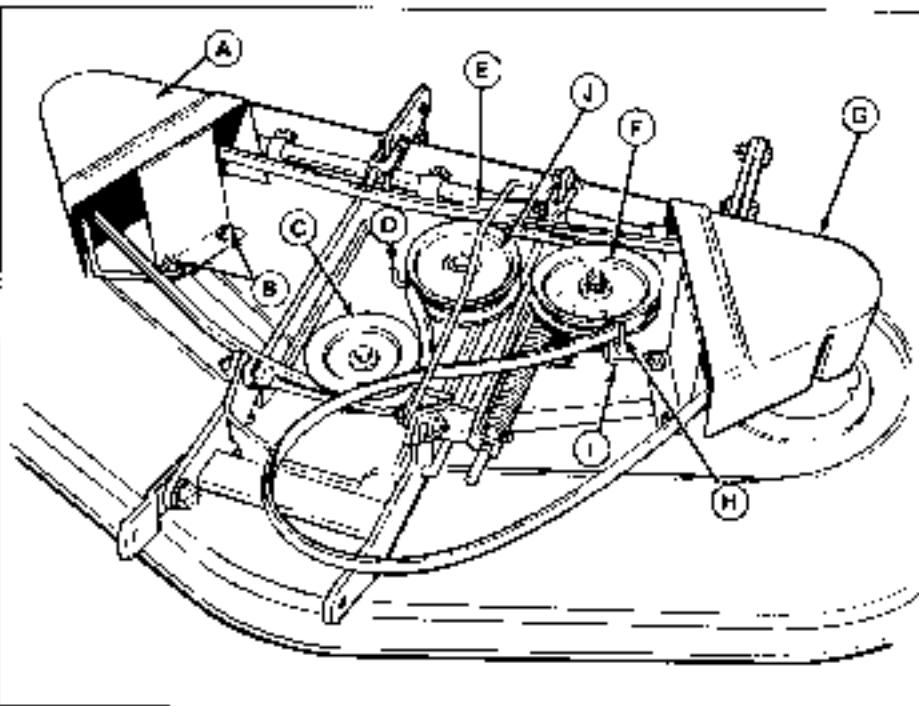

Figure 21. Mower Belt Replacement
2. Loosen the left belt stop (H, Figure 21) enough to slip the belt off the pulley. Remove the right belt stop (J).
4. 42" mower only. Remove the right arbor cover by removing two carriage bolts in front and two cap screws in rear (see figure 21). Remove the nut (H) and lockwasher (I) which secures left arbor cover to the idler pulley. Remove the two cap screws (K) and attaching hardware of the left arbor cover.